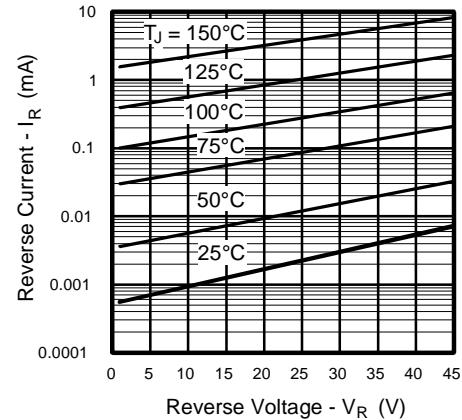

Fig. 2 Typical Values of Reverse Current Vs. Reverse Voltage (Per Leg)
| I_{RM} Max. Reverse Leakage Current (Per Leg) See Fig. 2 ① | 0.1 | mA | $T_J = 25^\circ\text{C}$ | $V_R = \text{rated } V_R$ | |